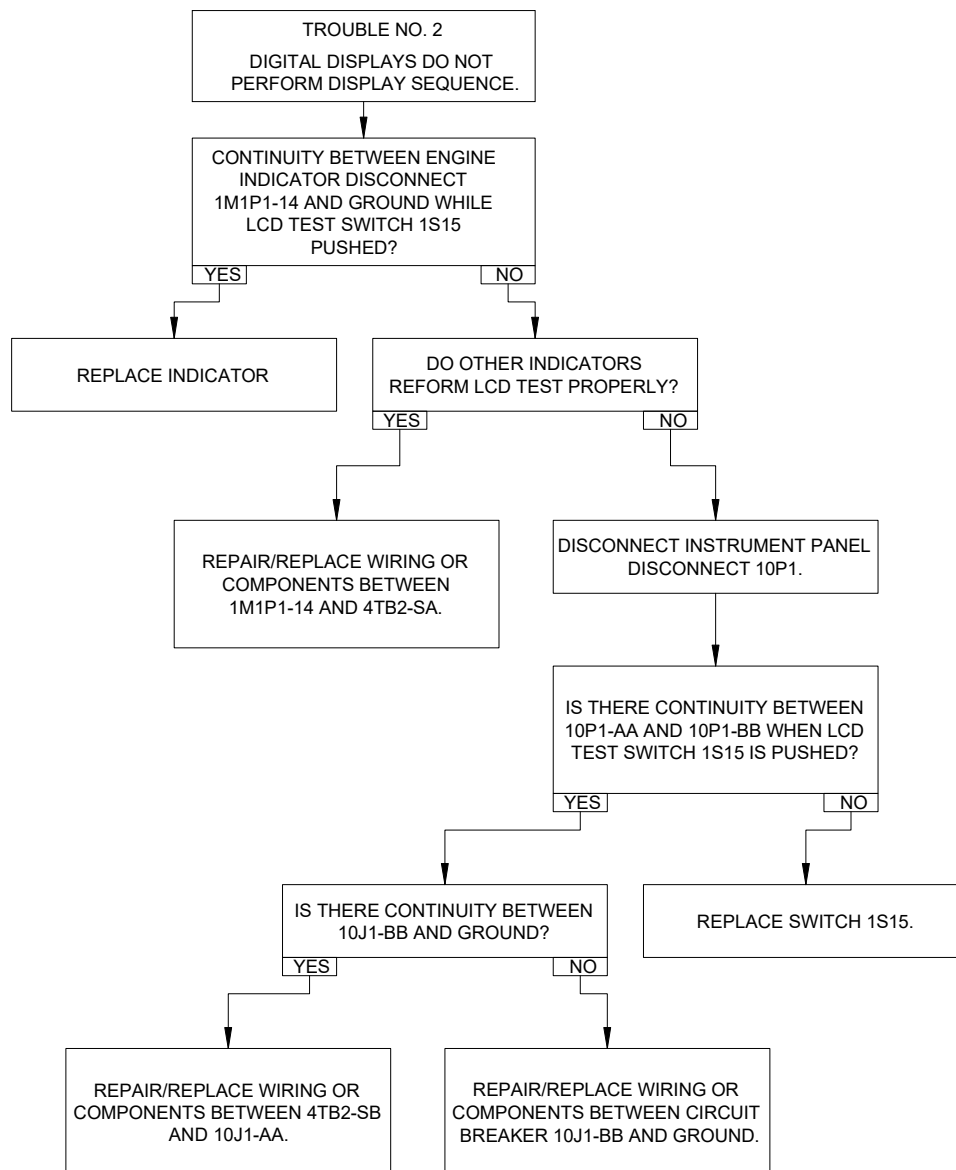

Figure 95-39: Fuel Quantity Indicator - Trouble No. 2
- If the digital displays do not perform the display sequence, refer to Trouble No. 2 (Figure 95-39).